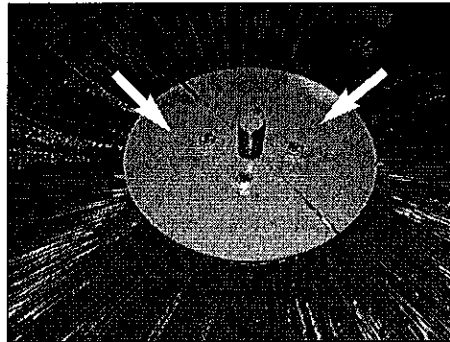

Figure 32
6. Remove retainer plate halves (Figure 32) from one end of the brush.